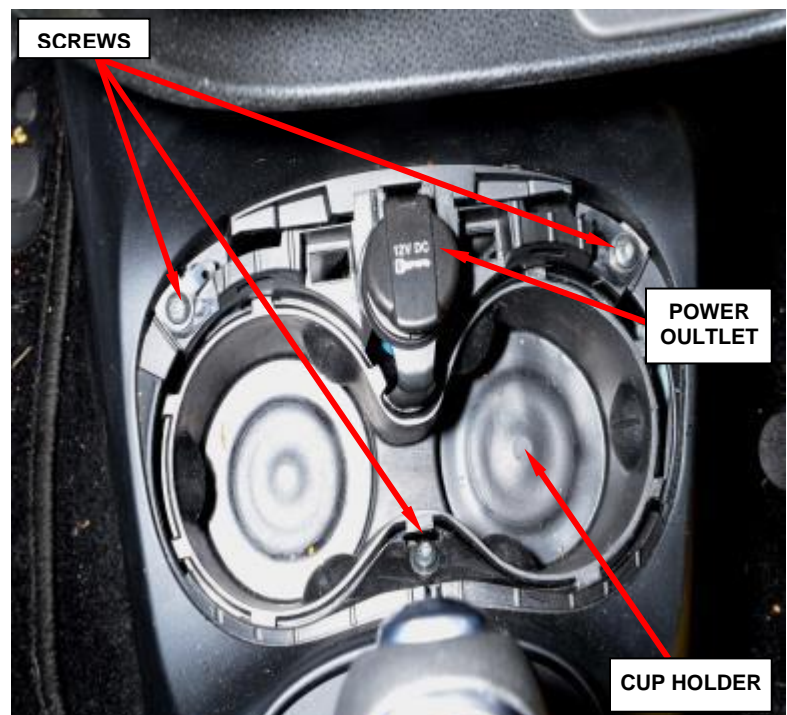

Figure 4 – Cup Holder
- k. Remove and save the three screws from the cup holder. Then lift up the cup holder and disconnect the electrical connector for the accessory power outlet (Figure 4).